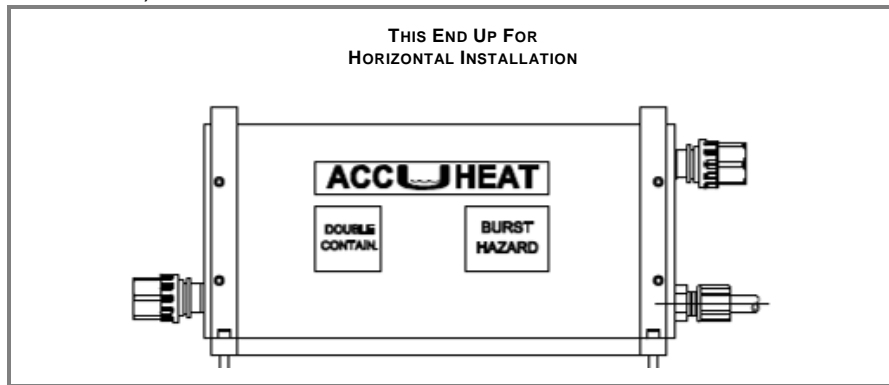

Figure 4-3. Side view of the Heater Horizontal Orientation Installation.
- Using four (4) ¼-inch diameter (6mm) screws (not provided), pre-drill (tapping as necessary) the mounting platform. Make sure that the horizontal installation label is facing up and the outlet fitting is in the 12-o’clock position (Figure 4-3). Mount the heater to the platform in a level position ($\pm 1^\circ$ at both “x” and “y” axes).